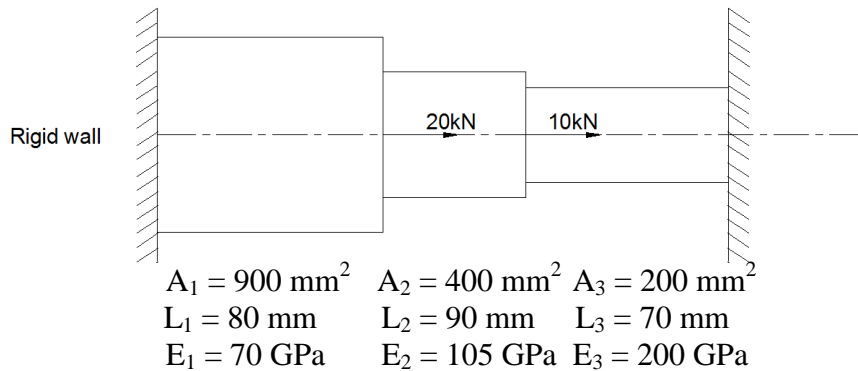

Figure 1
- (b) Find the values of displacement strain and stresses for the stepped bar as shown in Figure 1. 07